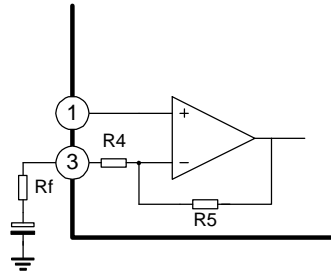

Figure 2
2. Adjustment of the voltage gain (figure 2)
The voltage gain is fixed at Gv=40dB by the resistors(R4 and R5) in IC. Its reduction is possible through adding Rf as shown in Figure 2. In this case, the voltage gain is obtained by the following equation: $Gv=20\log(R5+R4+Rf)/(R4+Rf)$. It is recommended to use this IC with the voltage gain of Gv=28dB or over.